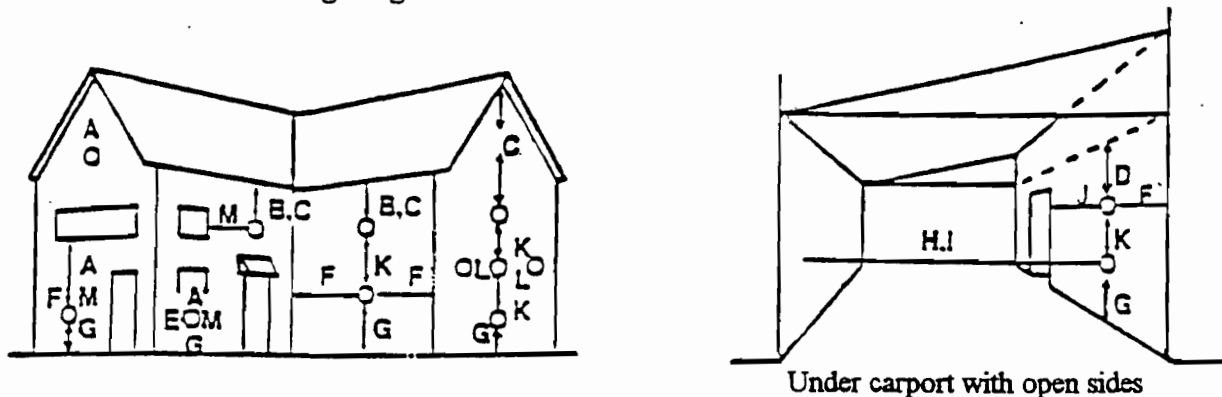

Fig.2: Terminal Position
4.5.6. **IMPORTANT REQUIREMENT:** The correct dimensional relationship between the terminal and any obstruction, openable window or ventilator as shown in Section 4.5.10, Fig 1 and stipulated in Section 4.5.10, Fig 2. It is **ESSENTIAL TO ENSURE**, in practice, that products of combustion discharging from the terminal cannot re-enter the building, or any other adjacent building, through ventilators, windows, doors, other sources of natural air infiltration, or forced ventilation/air conditioning systems. If this should occur, the appliance **MUST BE TURNED OFF IMMEDIATELY** and the local gas region consulted.